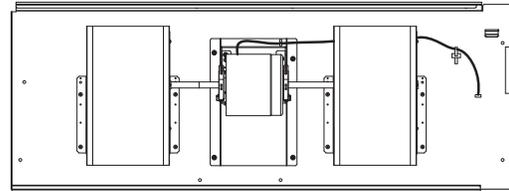

Fig.6
- (1) As shown in Fig. 6, reinstall the motor cable in its original position and reset it on the control board.